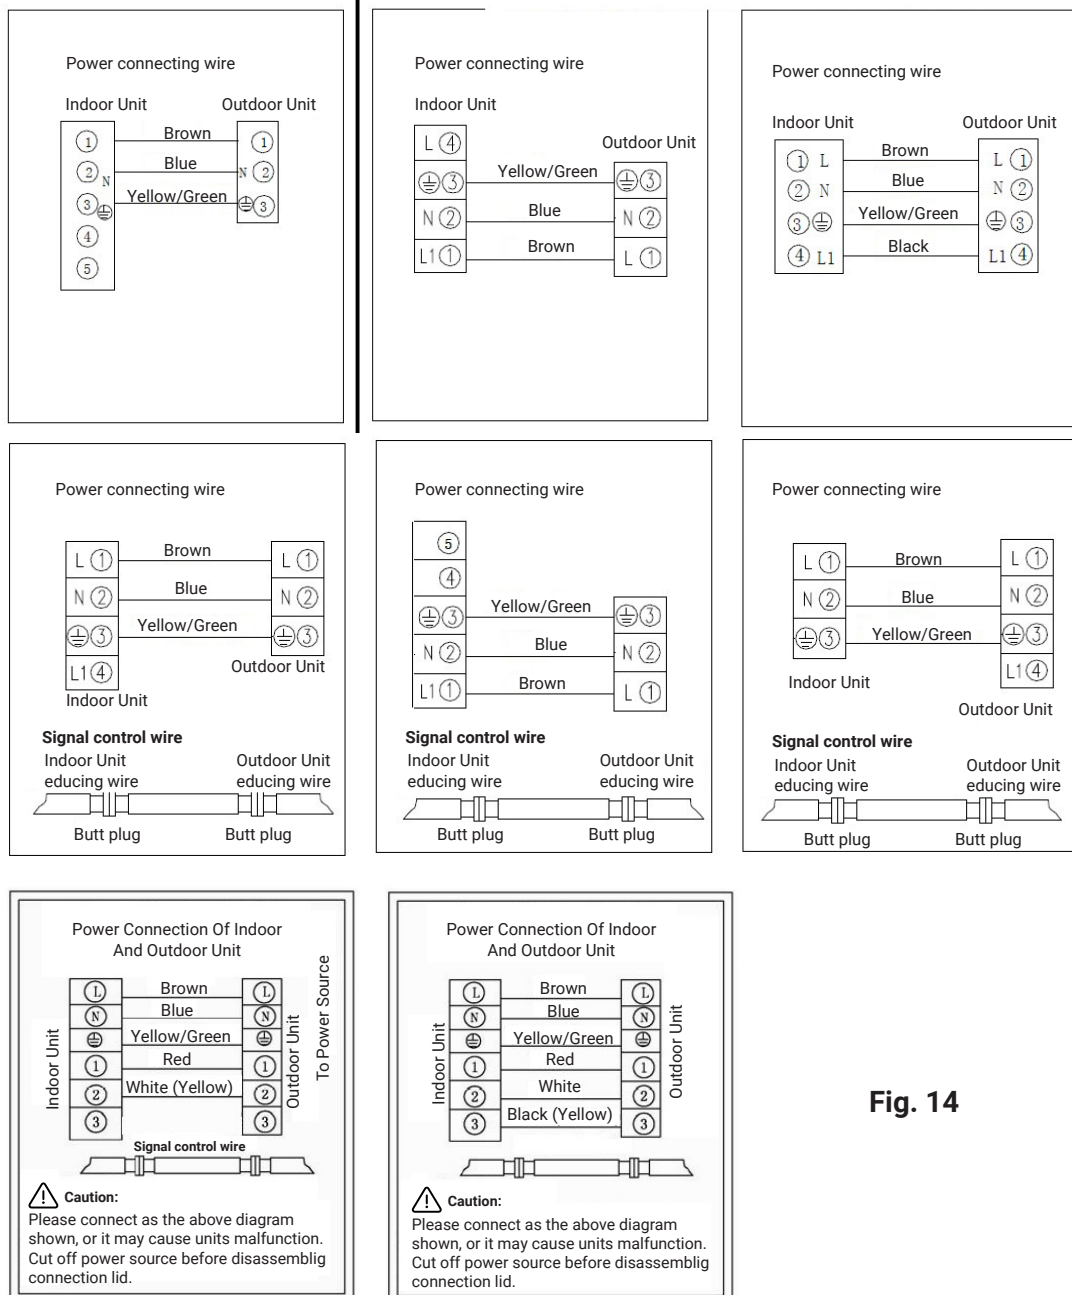

Fig. 14
- Connect the power connecting wires and signal control wire separately to the corresponding terminals. (In Fig.14, please choose the same wiring diagram just with the wiring diagram of unit.)
- Connect the connecting wires of the unit separately to the corresponding terminals. (Fig.14)